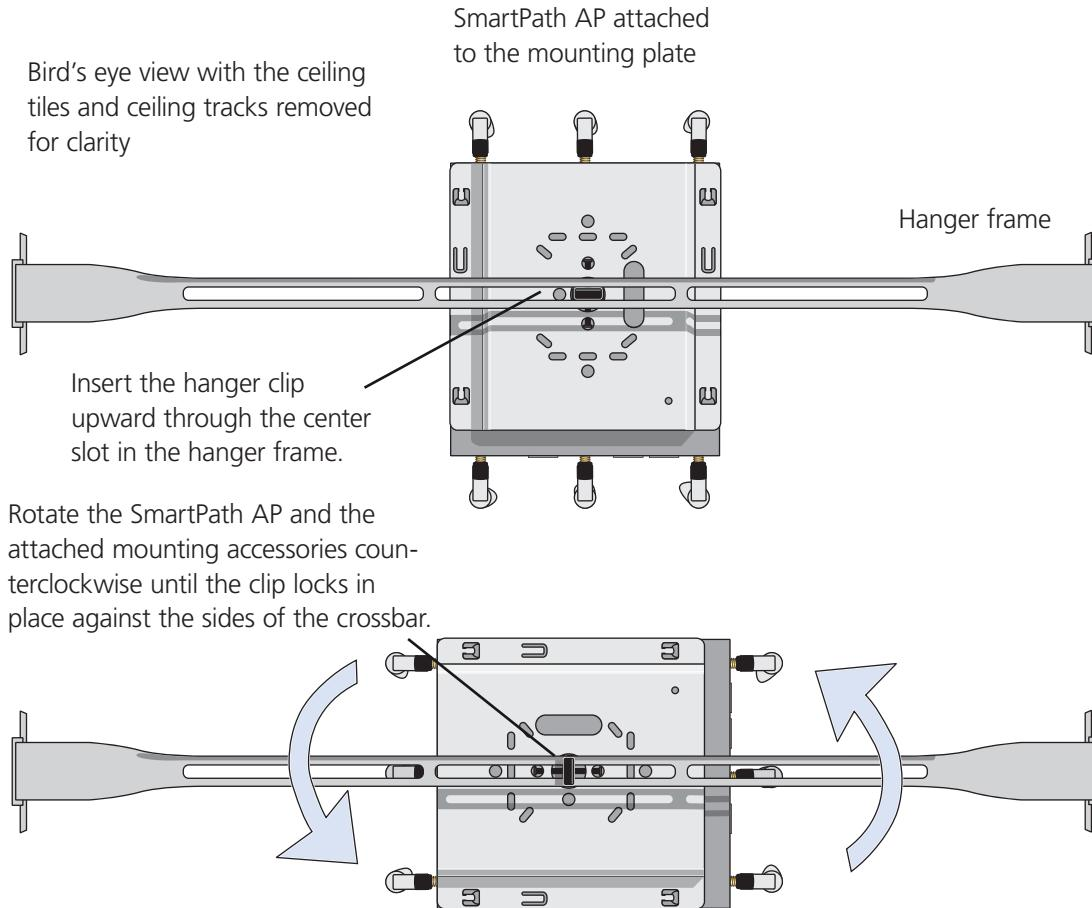

Figure 3-18. Securing the SmartPath AP to the hanger frame.
6. Insert the hanger clip upward through the center slot in the hanger frame, and then twist it counterclockwise until the clip snaps into a locked position against the sides of the crossbar (see Figure 3-18).